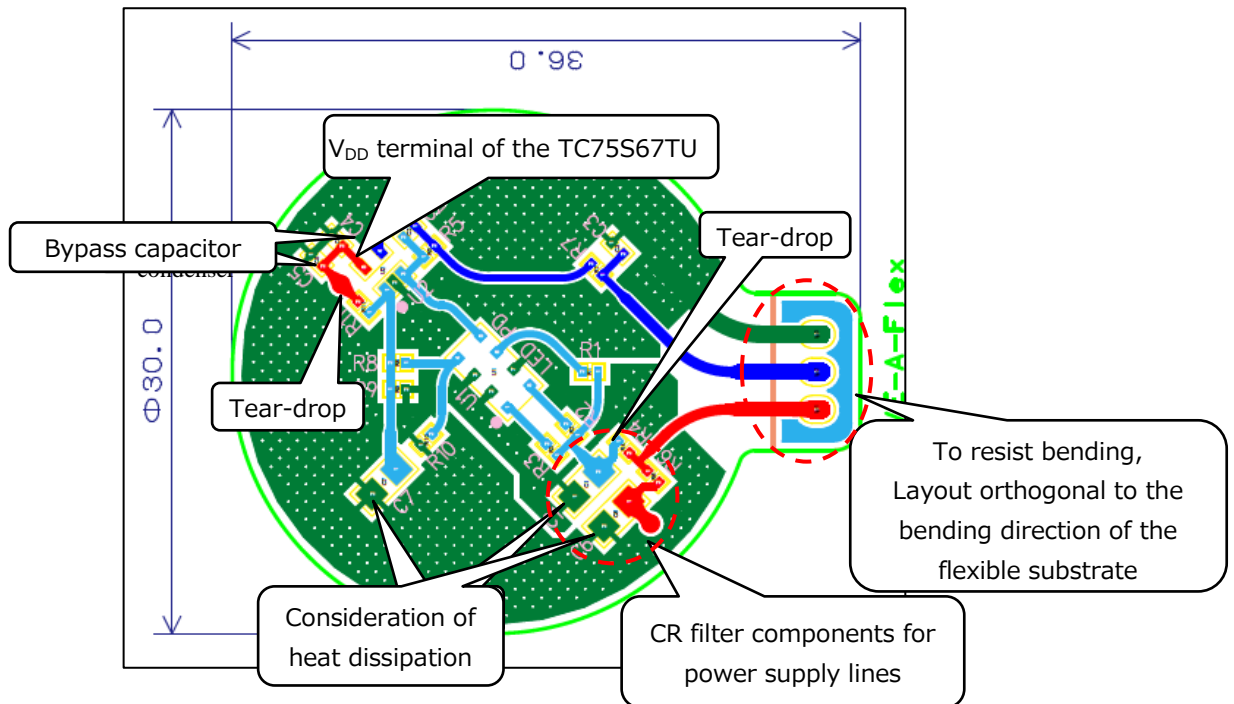
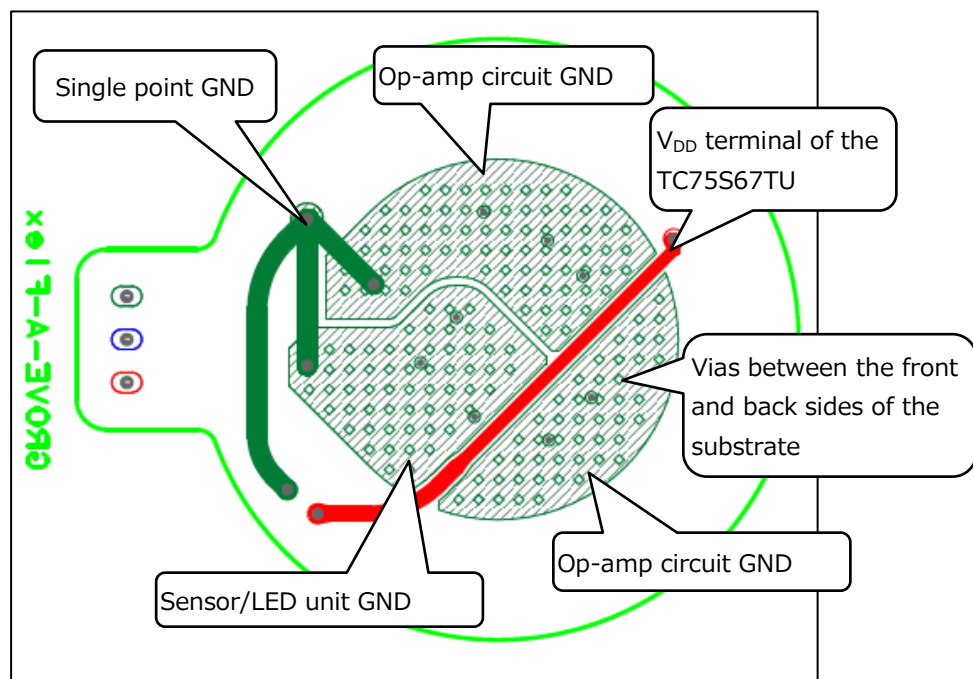
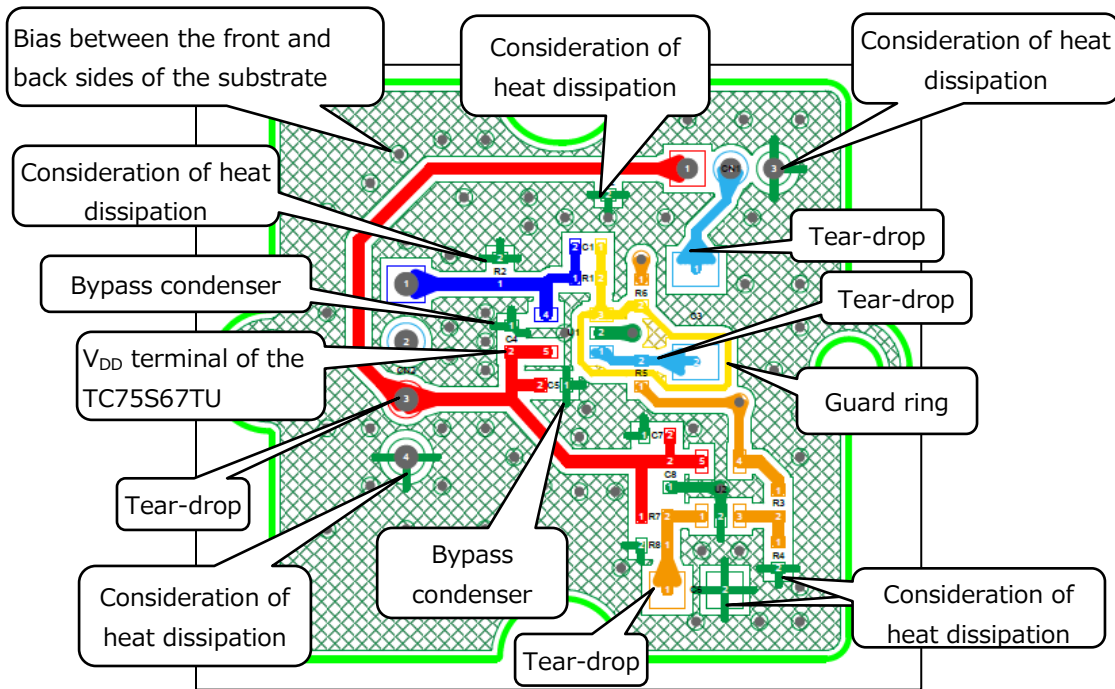
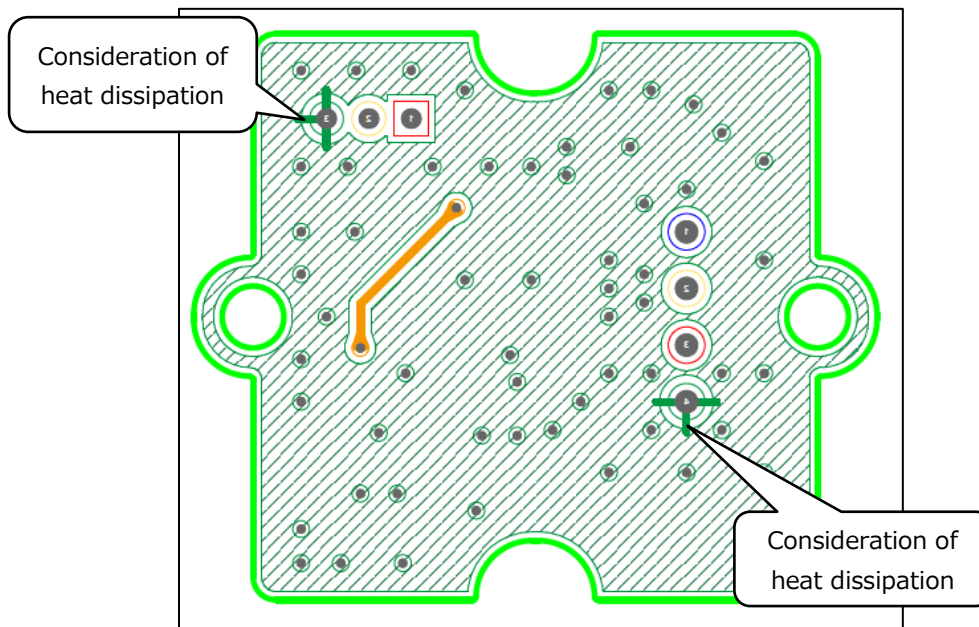

Fig. 3.1 Front surface pattern
Fig. 3.2 Back surface pattern
Fig. 3.3 Front surface pattern
Fig. 3.4 Back surface pattern
This circuit board consists of both front and back surfaces. Fig. 3.1 and Fig. 3.2 show the front surface pattern of the flexible board (component mounting surface) and the back surface pattern of the flexible board respectively. Part of the balloon describes in detail in Section 3.3. Please refer to this section as well.
This circuit board is also composed of both front and back surfaces. Figure 3.3 and Figure 3.4 show the front surface pattern of the rigid board (component mounting surface) and the back surface pattern of the rigid board respectively. Part of the balloon description is described in detail in Section 3.3. Please refer to this section as well.
- Points of attention specific to flexible substrates (See Fig. 3.1)
- Separation of solid GND and one-point GND (see Fig. 3.2)
- Thermal processing (see Fig. 3.1, Fig. 3.3, and Fig. 3.4)
- Tear drop shape (see Fig. 3.1 and Fig. 3.3)
- Bypass capacitor position (see Fig. 3.1 and Fig. 3.3)
- Guard ring of amplifier circuit board (see Fig. 3.3)